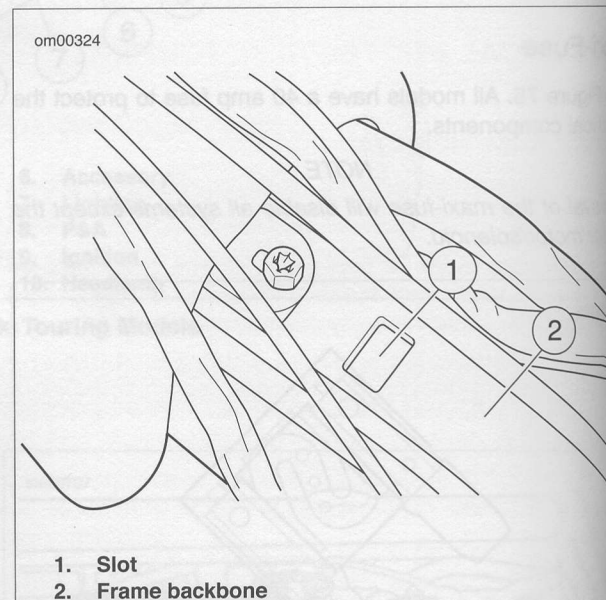

Figure 80. Seat Mounting Slot
1. See Figure 80. Place seat on frame backbone.